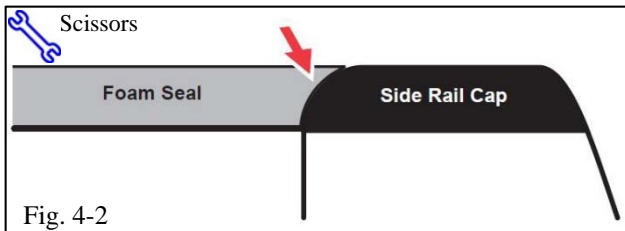

Fig. 4-2
- (c) Use scissors to cut the foam seal at an angle to minimize the gap with the side rail cap (Fig. 4-2).